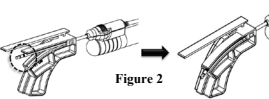

Figure 2
- Confirm that the wider of the two black bands on the cannula extends past the end of the handpiece prior to bending (**Figure 2**). If this band does not extend past the end of the tab, the handpiece may not function properly after being bent.
- NOTE:** The cannula tip for the 15ga, 10cm and 13ga, 10cm handpieces, simply fully insert past the bending tab as illustrated in **Figure 2**. For these handpieces, simply fully insert them (until they cannot be inserted any further) into the bending tool prior to bending.